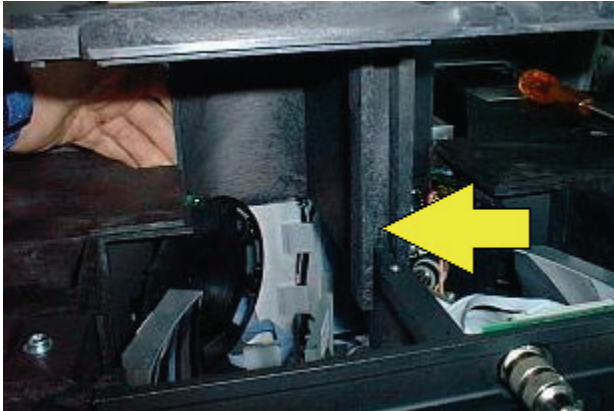

Figure 121 Replacing the main optical cover
1. Replace the middle optical cover, locating the central groove as shown Figure 121.